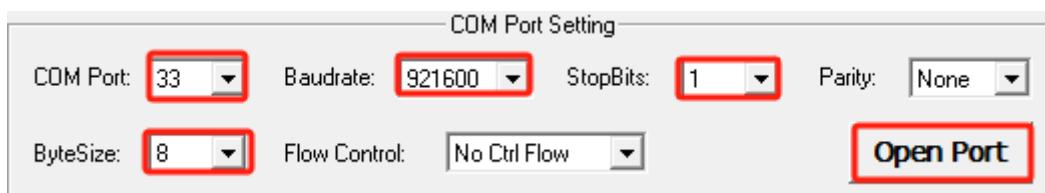

Figure 16: Connection Settings
Step 2: Open your serial port tool to select the serial port. Using the QCOM tool as an example, from “**COM Port Setting**” window as shown in Figure 16: Connection Settings, select the port with the largest port number among the 4 COM ports and configure the following settings: